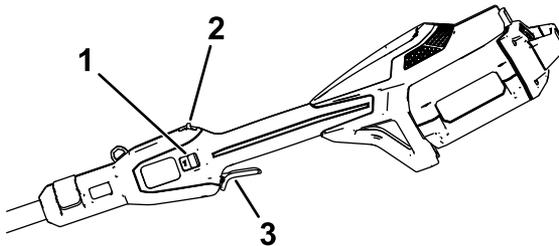

Figure 9
4. To start the trimmer, pull back the lockout switch, then squeeze the variable-speed trigger (Figure 9).